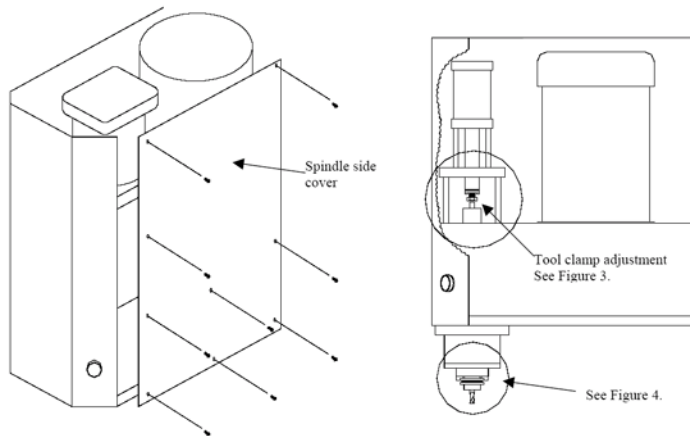

Figure 1
1. Remove the side panel of the spindle cover from the spindle. This will give you access to the tool clamping assembly located above the spindle cartridge. View figure 1.